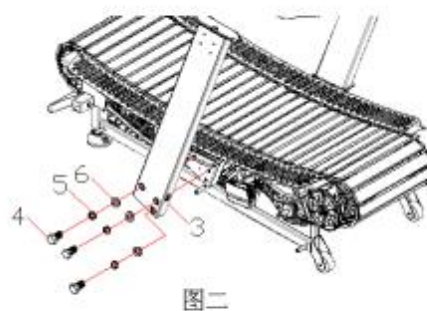
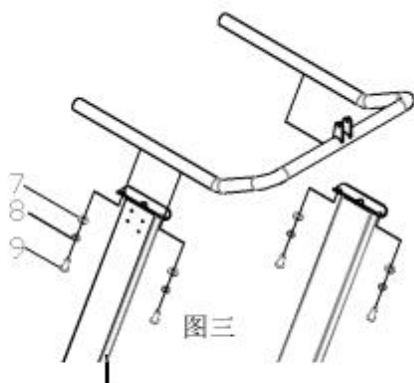

Figure 2
Figure 3
B、 First fix the left column with six angle cylinder head screw 4 (M12*45), gasket 6 (Φ 12), spring mat 5 (Φ 12), then connect the left side data line of the column with the data line of the main frame. (Figure 2)
C、 First fix the right column with the inner six angle cylinder head screw 4 (M12*45), the washer 6 (Φ 12), the spring mat 5 (Φ 12), and then connect the line C of the right side of the column bypass the disk (03) to the magneto resistance axis D. (figure 2, figure 3)